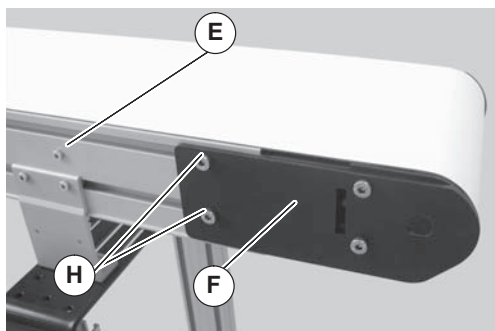
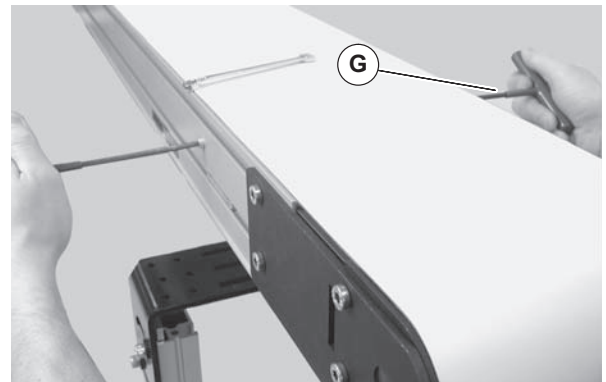

Figure 28
Figure 29
- On tension end of the conveyor, identified by the pinion locking screw (Figure 28, item E), loosen the two tail clamp bolts (H), on both sides of conveyor.
- With 5mm hex wrench, hold pinion torque screw (Figure 29, item G). Loosen the pinion locking screw (Figure 28, item E) and turn the pinion torque screw (G) to extend head plate assembly.
- After adjusting proper tensioning, tighten the pinion locking screw (Figure 28, item E) to 69 in-lbs (7.8 N-m), and tighten tail clamp bolts (Figure 8, item H) on both sides of conveyor to 146 in-lb (16.5 N-m).